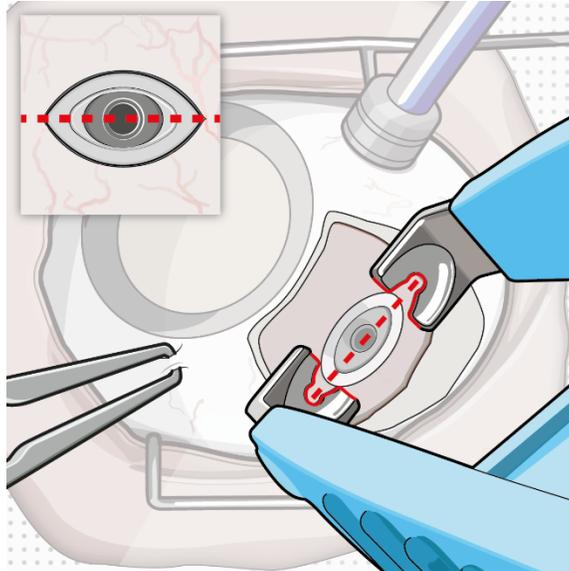

Figure 6
- With the explant tool oriented perpendicular to the globe, **align the contoured tips with the long axis of the implant flange** (Figure 6).